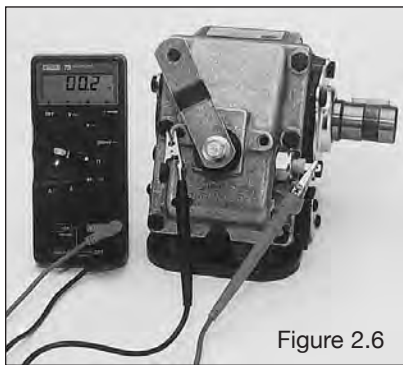

Figure 2.6
4. Engage the PTO. The meter will show continuity (Figure 2.6).